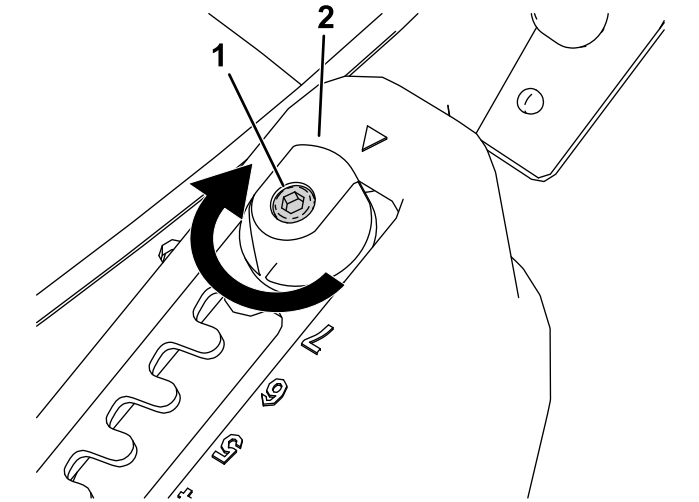
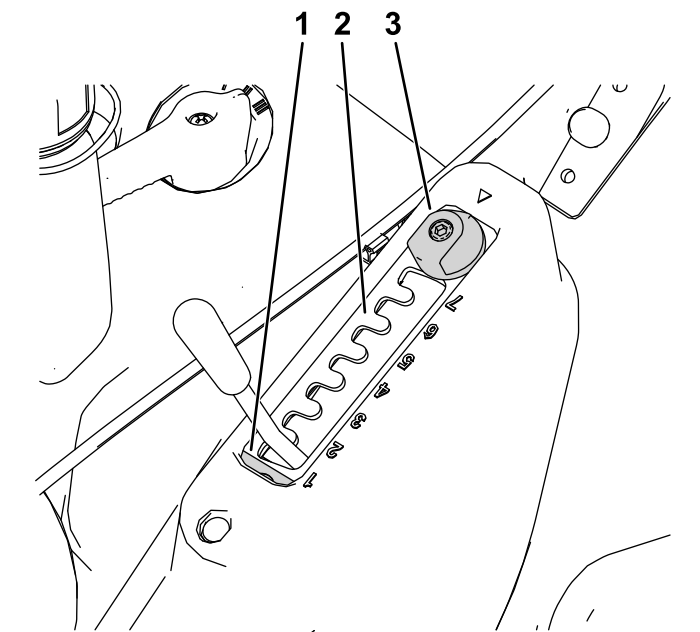

Figure 12
Figure 13
- 1. Loosen the selector plate retaining bolt with an Allen wrench (Figure 12).
- 2. Turn the matchcut adjuster 180° (Figure 12 and Figure 13).